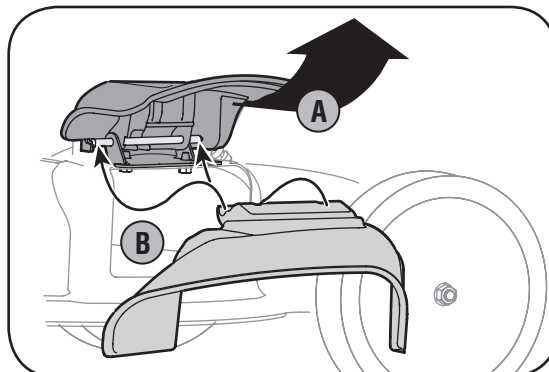

Figure 3-7: Lift mulch plug and install side discharge chute.
- a. On the side of the mower, lift the mulching plug, Figure 3-7.